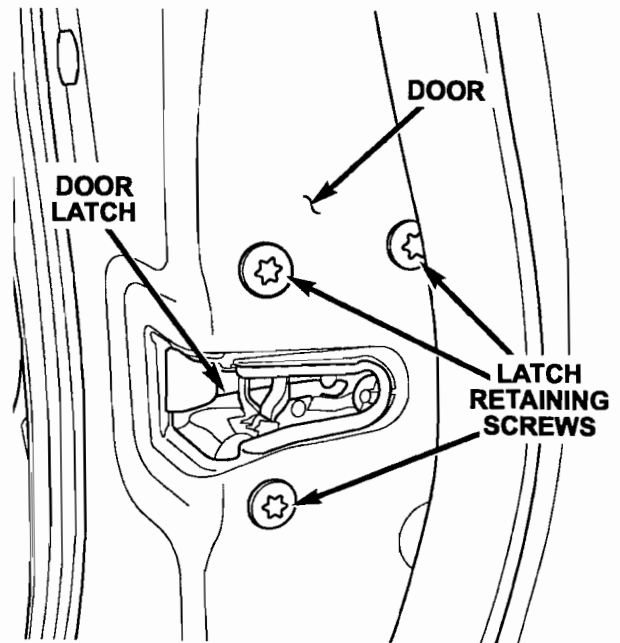

Figure 5
13. Remove the three latch retaining screws (Figure 5).